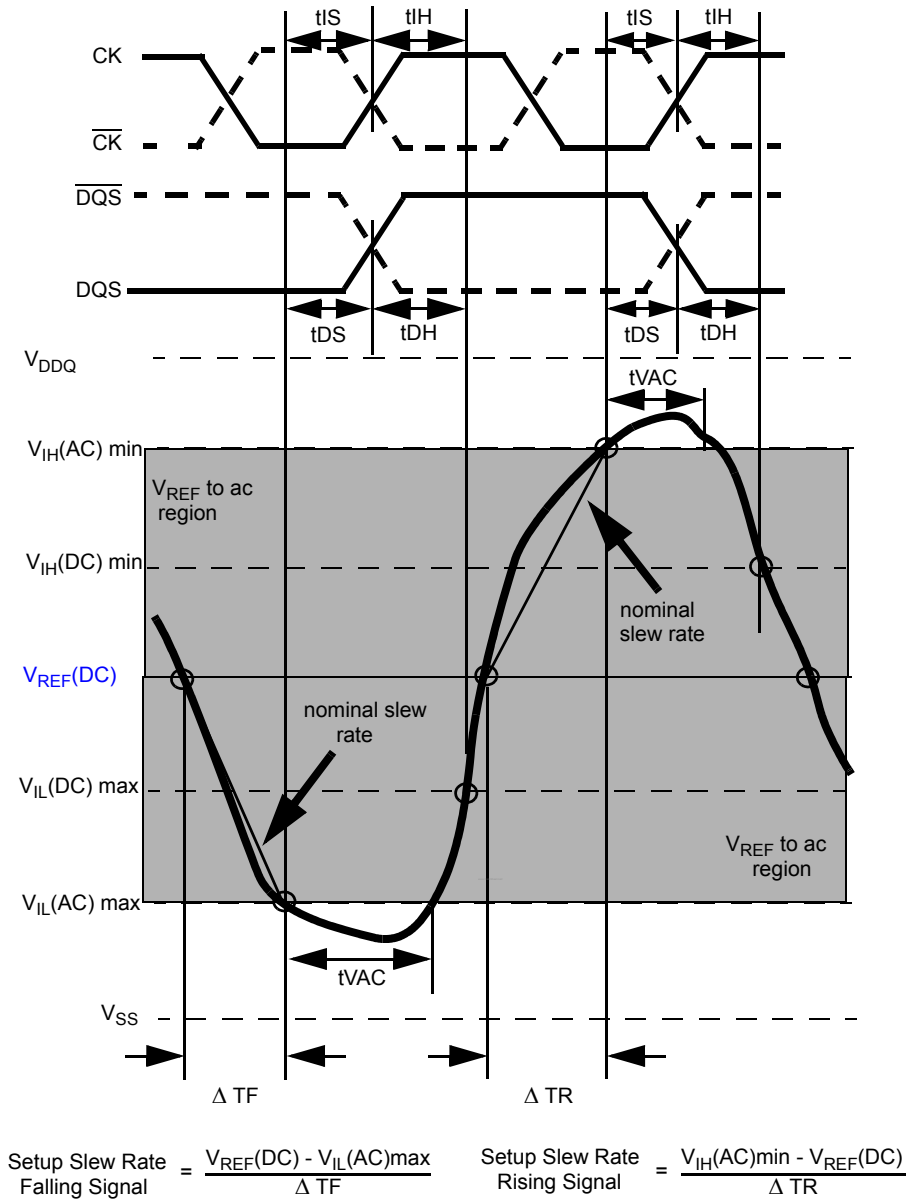
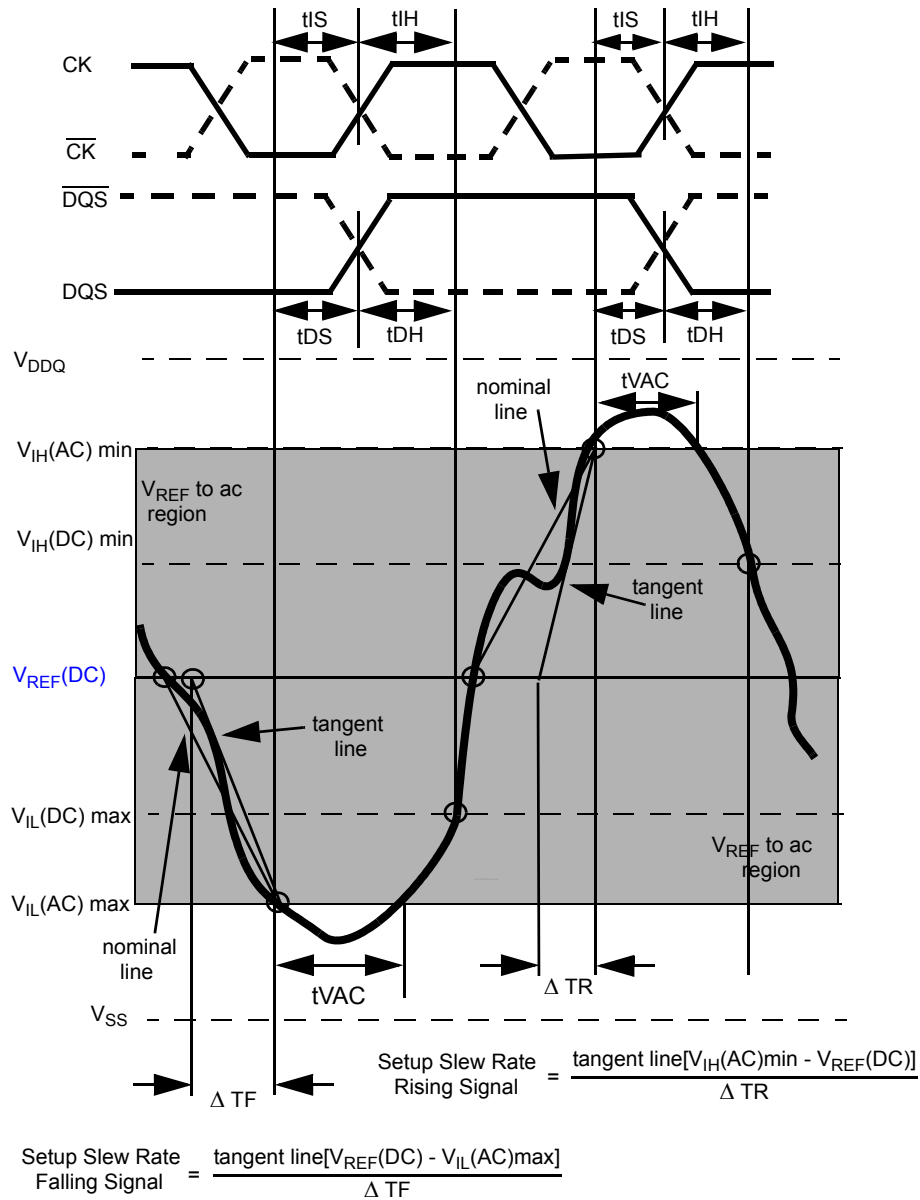

Figure 25. Illustration of nominal slew rate and t_{VAC} for setup time t_{DS} (for DQ with respect to strobe) and t_{IS} (for ADD/CMD with respect to clock).
Figure 27. Illustration of tangent line for setup time t_{DS} (for DQ with respect to strobe) and t_{IS} (for ADD/CMD with respect to clock)
Setup (tDS) nominal slew rate for a rising signal is defined as the slew rate between the last crossing of V_{REF}(DC) and the first crossing of V_{IH}(AC)_{min}. Setup (tDS) nominal slew rate for a falling signal is defined as the slew rate between the last crossing of V_{REF}(DC) and the first crossing of V_{IL}(AC)_{max} (see Figure 25). If the actual signal is always earlier than the nominal slew rate line between shaded 'V_{REF}(DC) to ac region', use nominal slew rate for derating value. If the actual signal is later than the nominal slew rate line anywhere between shaded 'V_{REF}(DC) to ac region', the slew rate of a tangent line to the actual signal from the ac level to dc level is used for derating value (see Figure 27).